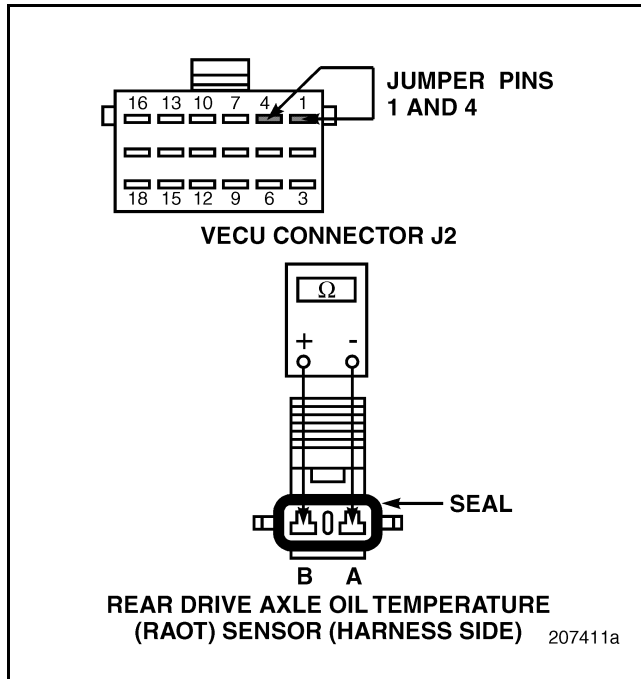

Figure 259
4. Check for continuity between pins A and B of the Rear Drive Axle Oil Temperature Sensor harness connector (see Figure 259).